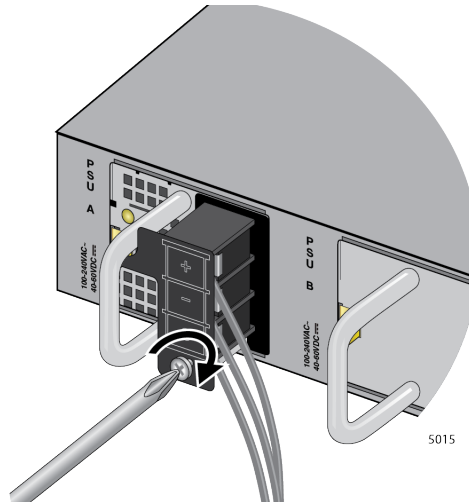

Figure 53. Tightening the Screw for the Cover Panel
9. Tighten the screw for the cover panel. Refer to Figure 53.